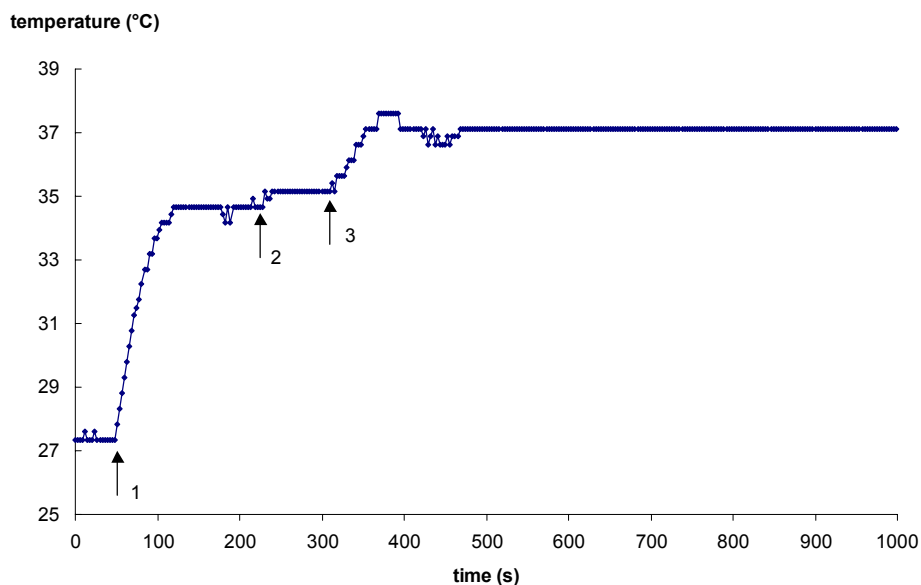

Figure 3: Time course of temperature regulation of the PTC-20, channel A.
- If the desired temperature is not reached first set the GAIN to a slightly higher level and then – if necessary – raise the INTEGRATION (see Figure 3).
In Figure 3 the time course of temperature regulation of the PTC-20 (channel A) is shown. As resistive load a bulb (12V, 21W) was used. The temperature sensor was fixed directly on the bulb and sensor and bulb were wrapped with foam. Starting temperature was 27,3 °C. Starting conditions were: LIMITER set to 0, GAIN set to 0, INTEGRATION off.